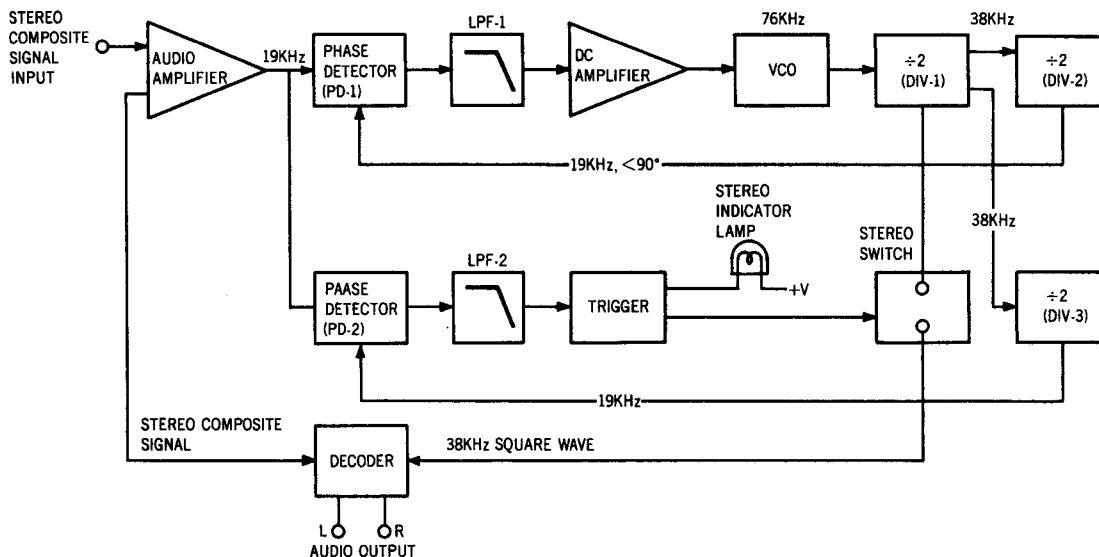

Figure 1. Block Diagram of the HA1156
ed of L301 to L304 and C311 to C320 for elimination of undesirable residual switching signal and through a de-emphasis network consisting of R325, R326, C321 and C322, into the npn-pnp direct coupled audio amplifier, where the signals are amplified to a required level for the output from J311 and J313. From these jacks, the audio signals are led to the TAPE OUTPUT jacks through the function switch. Figure 1 presents an internal block diagram showing the functions of the PLL basis MPX stereo decoding IC HA1156. The input stereo composite signal, amplified by the audio amplifier, is delivered to the phase detectors PD-1 and PD-2. A part of the stereo composite signal is also applied to the stereo decoder section. The VCO (Voltage Control Oscillator) produces a free run oscillation in the neighborhood of 76KHz with the time constant determined by a capacitor C305 and resistors R311 and R312 set on the outside of pin ⑭. The VCO output has its frequency divided into 19KHz through the two stages of the frequency divider (DIV-1 & DIV-2), and is reverted to the phase detector PD-1, which contains two input terminals designed to produce an output in proportion to the product of the two input signals. The signal applied to one of the inputs of PD-1 is the 19KHz square wave formed through frequency division of the 76KHz VCO output signal by the two stages of the frequency divider DIV-1 and DIV-2, and the 19KHz pilot signal included in the stereo composite signal as a reference signal is applied to the other input. Therefore, the output of PD-1 which has passed through the low pass filter LPF-1 provides DC output voltage in proportion to the phase variance between the two inputs. This DC output voltage is amplified by the DC amplifier, and supplied to the 76KHz VCO as a control voltage. This means that the output frequency and phase of the VCO have been phase-locked to the input pilot signal. The 38KHz sub-carrier reproduced by PLL as stated above is delivered through the stereo switch to the stereo decoder section as a switching signal, thus driving the decoder section. One of the inputs of PD-2 is given the 19KHz resulting from the frequency division completed by DIV-1 and DIV-3, whereas the other input gets the 19KHz output contained in the composite signal, and the output is provided with a DC output in proportion to the amplitude of the pilot signal. This DC output is furnished through LPF-2 to the trigger amplifier which drives the stereo indicator lamp and stereo switch. Therefore, insufficient supply of the pilot signal results in failure to light the stereo indicator and to turn on the stereo switch located in the path of the 38KHz switching signal,